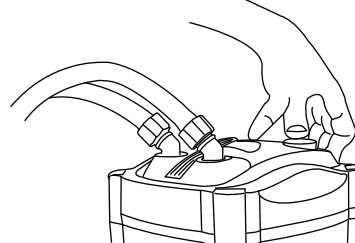

Fig 2
2. Press the primer down with your your thumb Fig 2